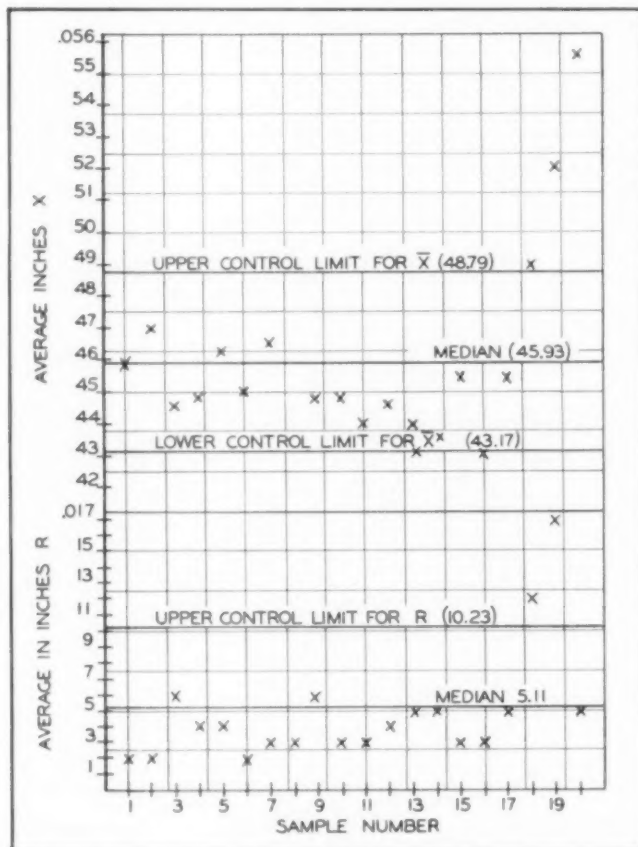
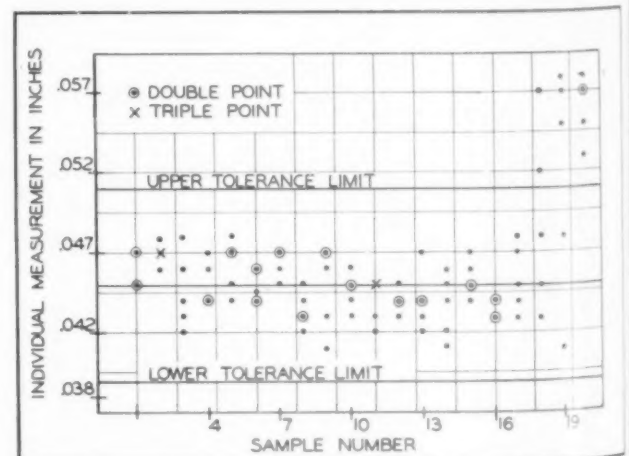

Fig. 4. Shewhart indicating individual measurement of values obtained as illustrated in Fig. 3, as well as the bar X and R chart as calculated.
Fig. 5. Measurement Values of Dimension "A" Along with Calculations of Limits After Correction
In a statistical control plan, the Shewhart control chart for both averages (bar \bar{X} or \bar{X}) and range (R) is widely used. This type of chart is used to (1) determine the level of a quality characteristic, (2) determine possible variation, (3) determine consistency of performance. As an example, in the screw machine part illustrated in Fig. 3, a serious discrepancy in measurement A was found. Previous measurements were within the specified dimensional limits. Investigation revealed that the difficulty was due to a compression action during broaching of a new lot of steel. The amount of compression was approximately equal to the increase of thickness as noted in dimension A in Fig. 5. Graphically, the two conditions are illustrated in Figs. 4 and 6. In the former instance (Fig. 4), the individual measurement chart indicated 11 percent out of control; the bar \bar{X} chart indicated that samples 18, 19 and 20 were out of control; and the R chart for range indicated that 18 and 19 were out of control. As a general trend, both the average and range were on the low side of the control bracket. Measure-